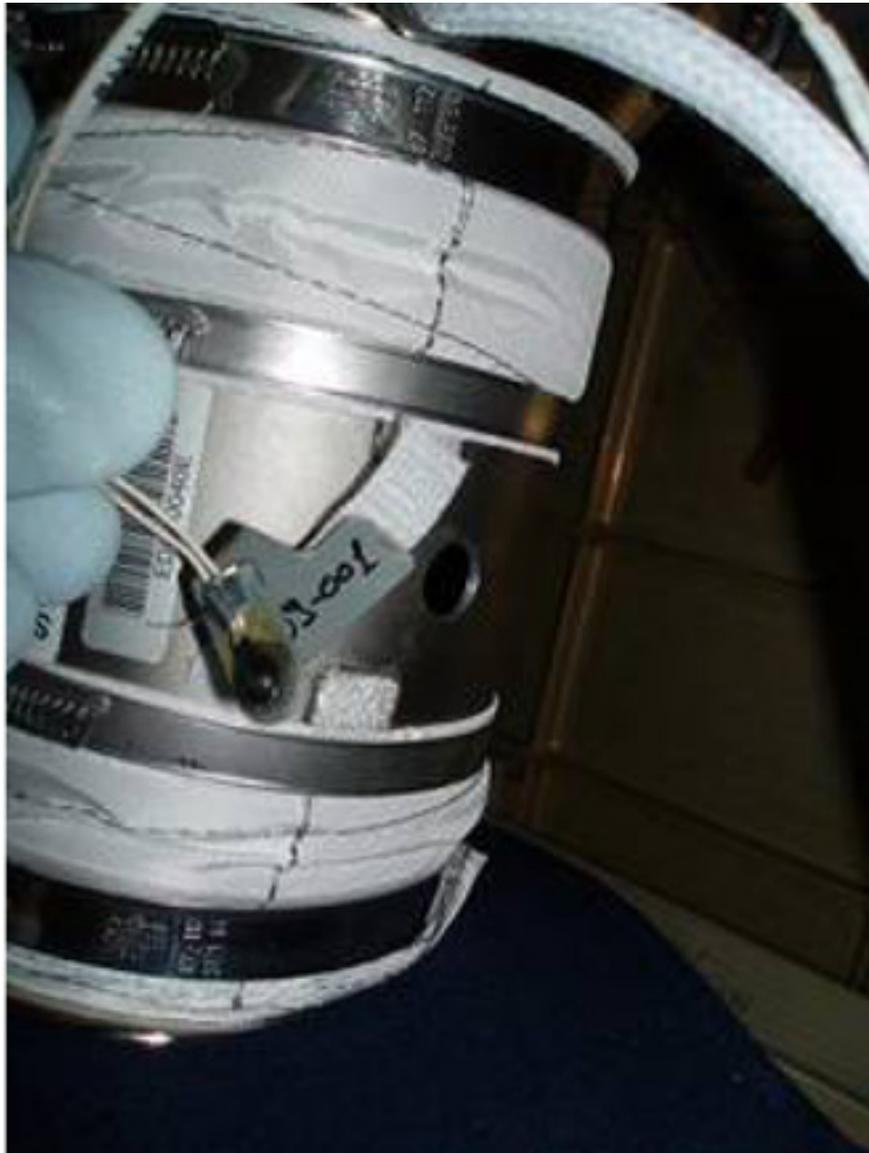

Figure 8. TH18 Thermistor
- 6.4 Insert the TH18 thermistor to the SD into the T-Junction dedicated hole, (refer to Figure 8) (Velcro and Kapton Tape)